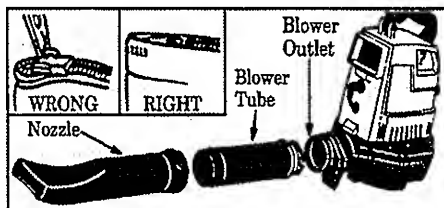

Figure 4
10. Never run the unit without the proper equipment attached. When using your unit as a blower, always install blower tubes. When using your unit as a vacuum, always install vacuum tubes and collection bag assembly. Make sure collection bag assembly is completely zipped as shown in Figure 4.
3. Close the zipper on the bag. Make sure the zipper is closed completely and the zipper seam is tucked toward the inside of the bag. Figure 4 (inset).
1. Remove the blower tube from the engine. Figure 4.
9. Never run the unit without the proper equipment attached. When using your unit as a blower, always install blower tubes. When using your unit as a vacuum, always install vacuum tubes and collection bag assembly. Make sure collection bag assembly is completely zipped as shown in Figure 4.